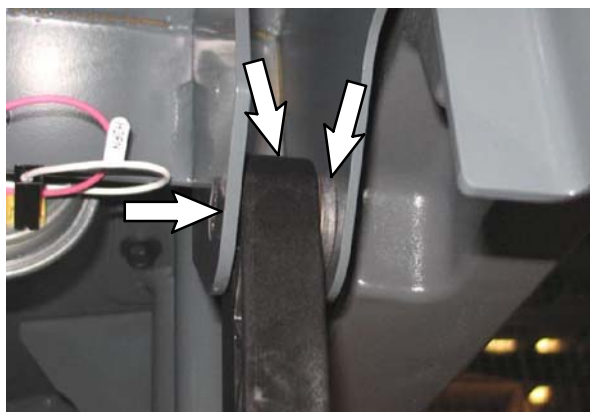
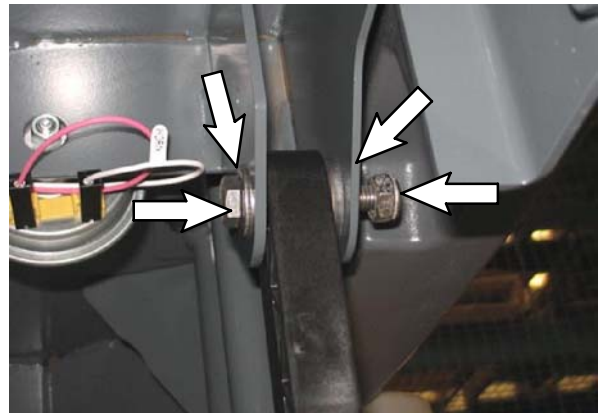

FIG. 9
FIG. 10
9. Insert the sleeve (2) into the lift arm bracket on the frame of the machine, through the scrub head lift arm, through the spacer (1), and through the the other side of the lift arm bracket. Refer to Fig. 9.
10. Use an M10 hex screw (3), two flat washers (4), and an M10 hex nut (5) to secure the sleeve (2), the scrub head lift arm, and spacer (1) into the lift arm bracket on the frame of the machine. Refer to Fig. 10.
11. Repeat the last several steps to reinstall the other scrub head lift arm onto the other side of the machine. Refer to Fig. 9 and Fig. 10.